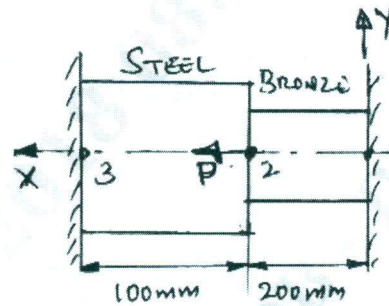

Fig.Q4(a)
- b. A 4 bar truss element as shown in Fig.Q4(b), determine i) Nodal displacement ii) stress in each element, area of truss element = 100mm^2 ; $E = 2 \times 10^5\text{N/mm}^2$.